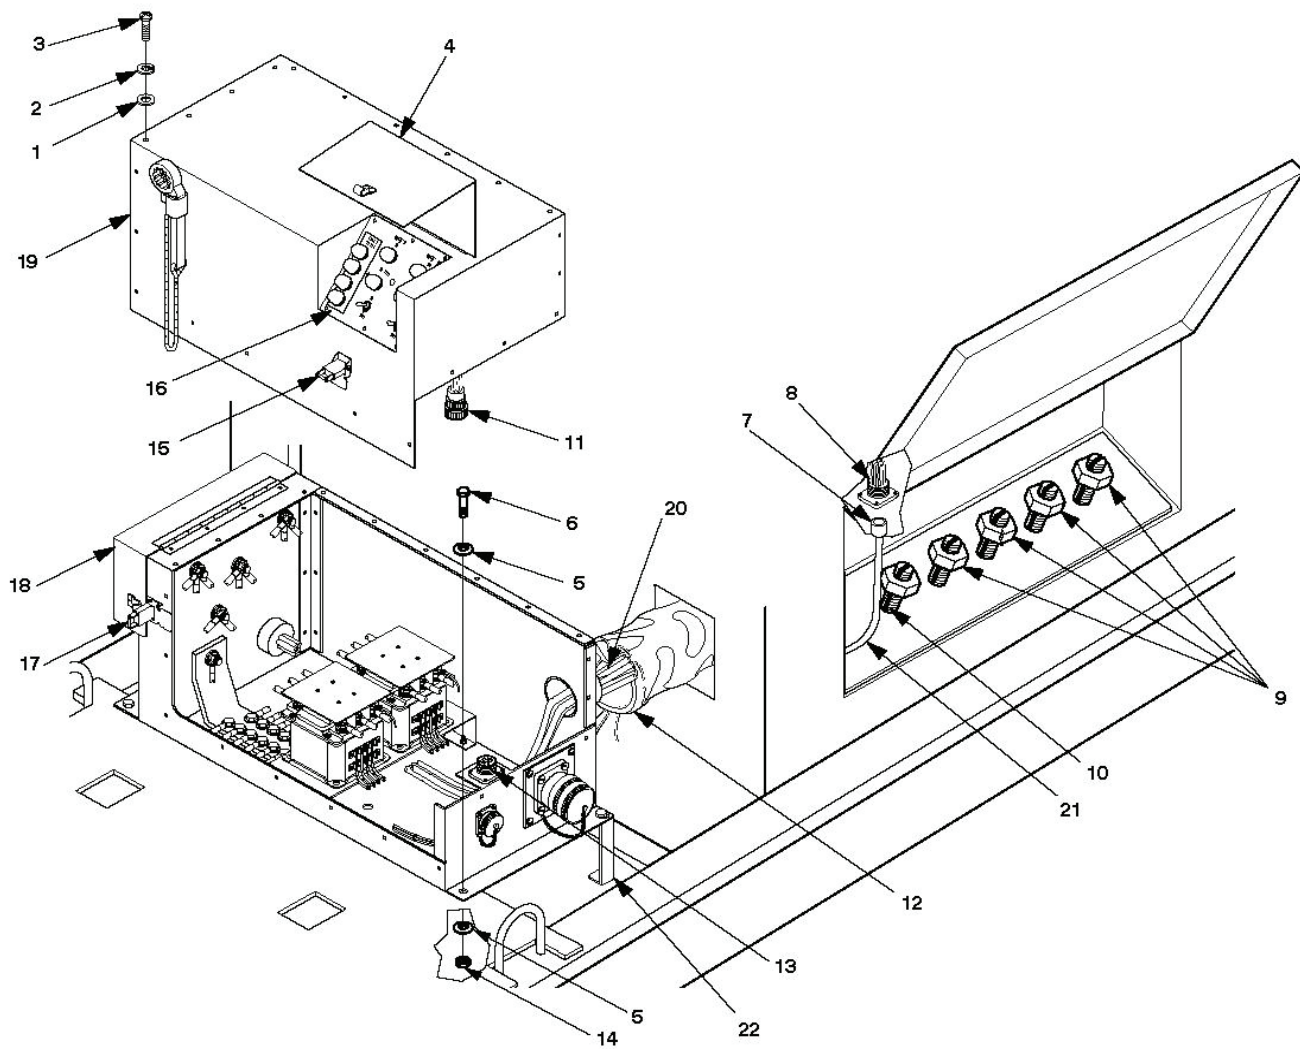

Figure 4-10. Switch Box Assembly Maintenance (Typical A Model)
1. Remove four lock-nuts (14, figure 4-10), eight flat washers (5), and four cap screws (6) that secure the switch box assembly. Discard lock-nuts (14).
2. Disconnect L1, L2, L3, and N from generator set load terminals (9).
3. Disconnect GND from the generator set ground terminal (10).
4. Disconnect P1 (7) from J16 (8) of generator set.
1. Place loop clamp (6) so mounting holes are aligned with switch box cover (19, figure 4-10) holes.
3. Install cap screw (8), two flat washers (3), terminal lug (7), new lock washer (2), and nut (1) which secure loop clamp (6) to switch box cover (19, figure 4-10).